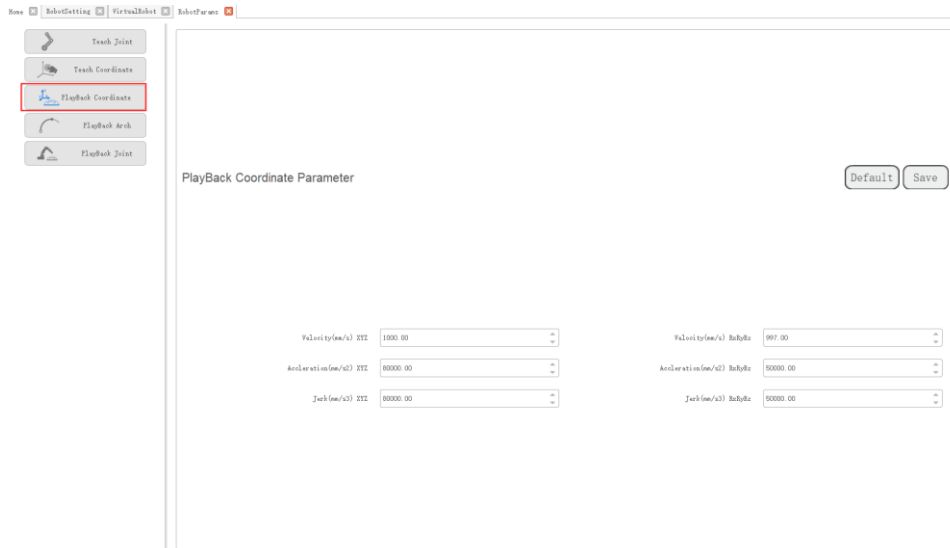

Figure 1.5 Playback parameters in the Cartesian coordinate system
- Playback Coordinate Parameter: Set the maximum velocity, acceleration and jerk in the Cartesian coordinate system when running robot programs. The playback parameters of a 6-axis robot in the Cartesian coordinate system are as shown in Figure 1.5.